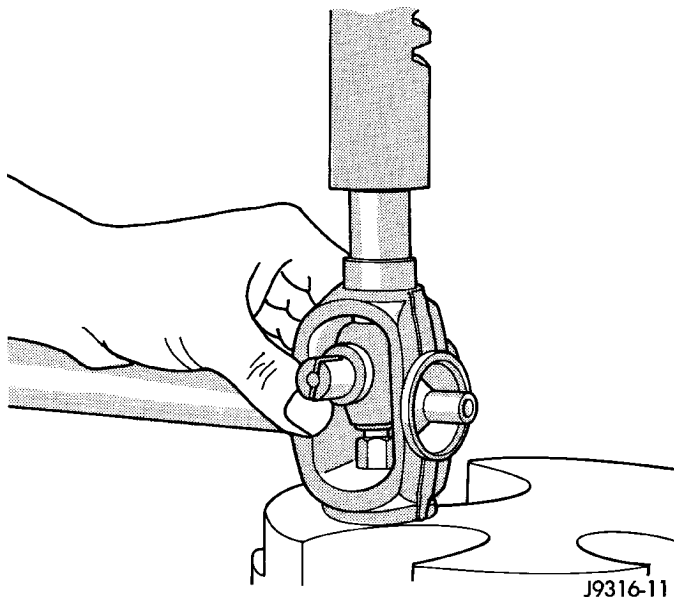

Fig. 26 Press In Bearing Cap
(4) Press the bearing cap into the yoke bore enough to install a snap ring (Fig. 26).
(5) Install a snap ring.